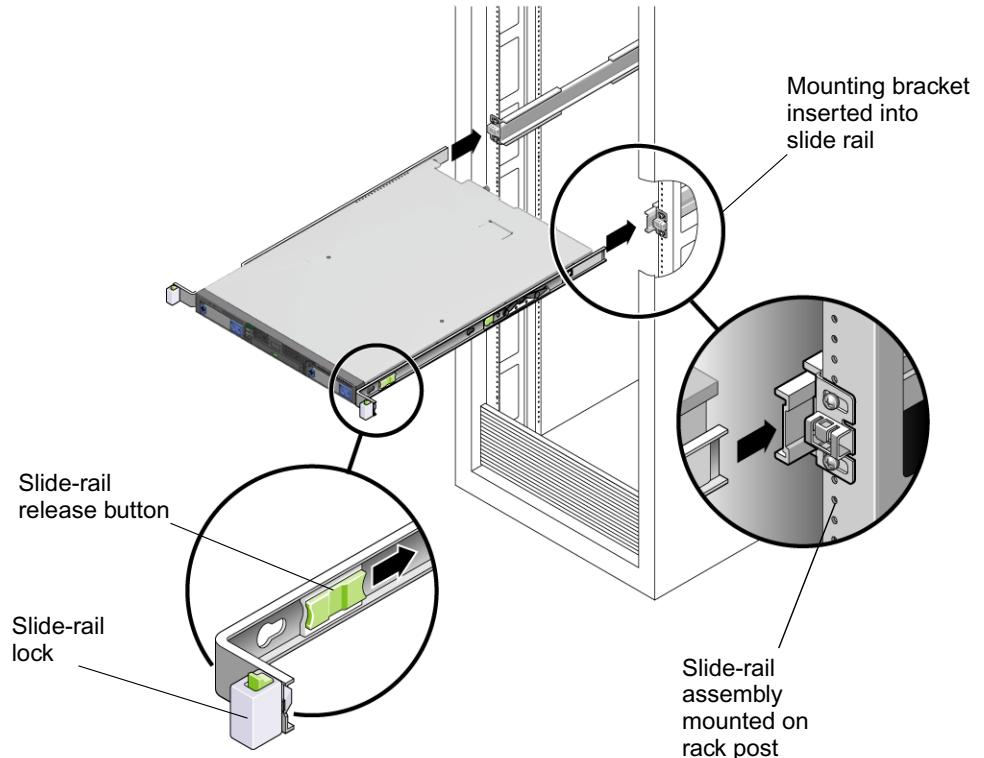

FIGURE C-6 Inserting the Server With Mounting Brackets Into the Slide Rails
2. Raise the server so that the rear ends of the mounting brackets are aligned with the slide-rail assemblies that are mounted in the equipment rack. (See FIGURE C-6.)
4. Simultaneously push and hold the slide-rail release buttons on each mounting bracket while you push the server into the rack. (See FIGURE C-6.) Continue pushing until the slide-rail locks on the front of the mounting brackets engage the slide-rail assemblies.
- b. **The second set of stops are the slide rail release buttons, located near the front of each mounting bracket. See FIGURE C-6. Simultaneously push or pull both of the slide-rail release buttons and push the server completely into the rack until both slide-rail locks engage.**